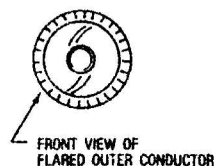

Figure 5.
- Bend the cut outer conductor over the face of the collet with long nose pliers. Flare the cut tabs and the remaining 1/16 inch of outer conductor flat against the collet with a ball peen hammer. Trim any portion of outer conductor that protrudes past the outside diameter of the collet with light metal snips and smooth all edges with a file. See Figure 5.